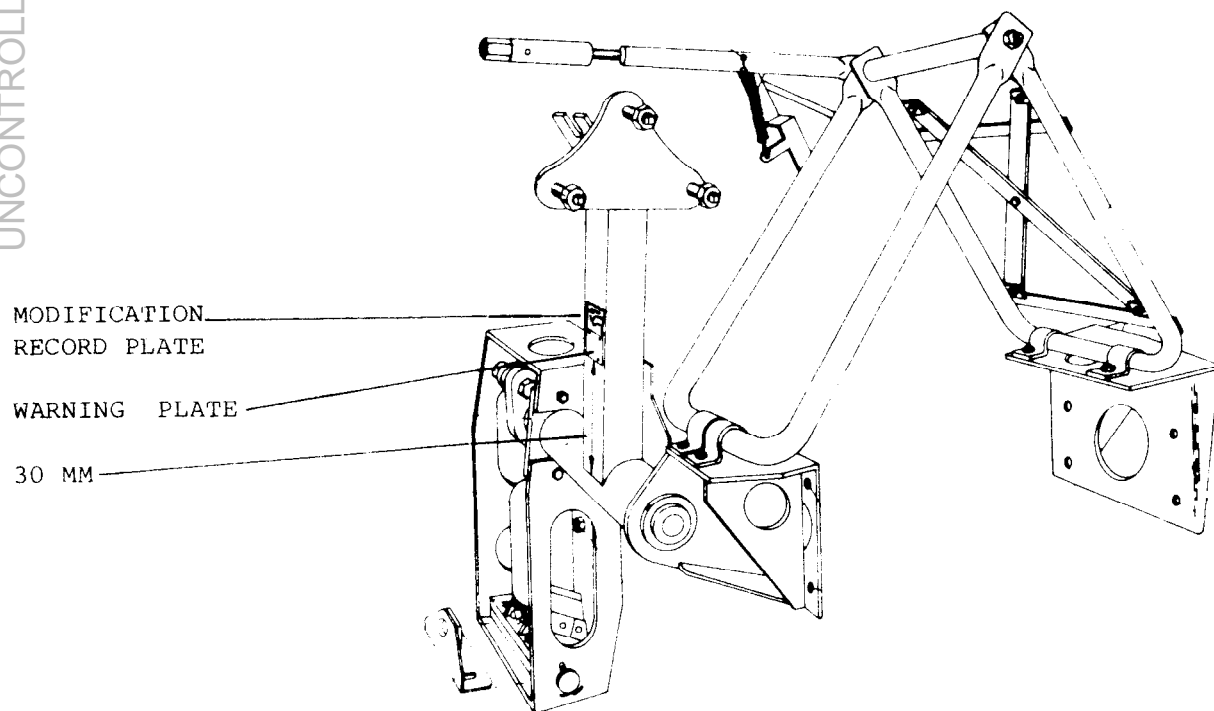

FIG 1 - LOCATION OF WARNING PLATE AND MODIFICATION RECORD PLATE
8. To carry out the modification, refer to Fig 1 and proceed as follows:
- a. Position the warning plate, item 1 from Table 1, as shown in Fig 1.
- e. Position the modification record plate, item 1 from Table 2, as shown in Fig 1.